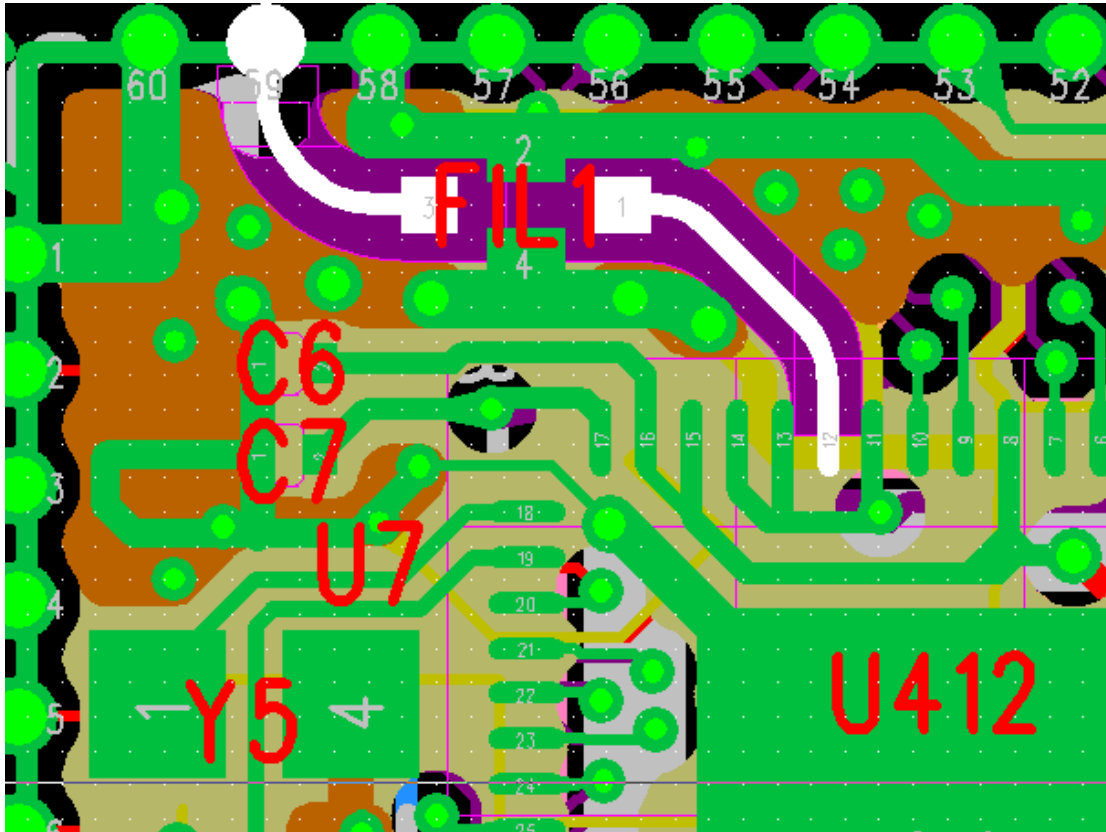

Figure 2-1
On U2 PCB board, A band-pass filter Fil1 needs to be inserted between QCC3007 power amplifier (PA) output and the antenna. This component can be added to provide additional margin for emissions testing. The band-pass filter should be located as close to QCC3007 QFN as possible. The grounding of the filter is critical to guarantee proper attenuation of the filter out of band. The layout of the RF section in a QCC3007 QFN system can affect overall RF performance. Ground connections become increasingly critical at RF frequencies. All ground pins should be connected to the main RF reference ground plane On the QCC3007 QFN only two of the RF grounds are routed to lead frames, the others are tied to the paddle underneath the die. See figure2-1